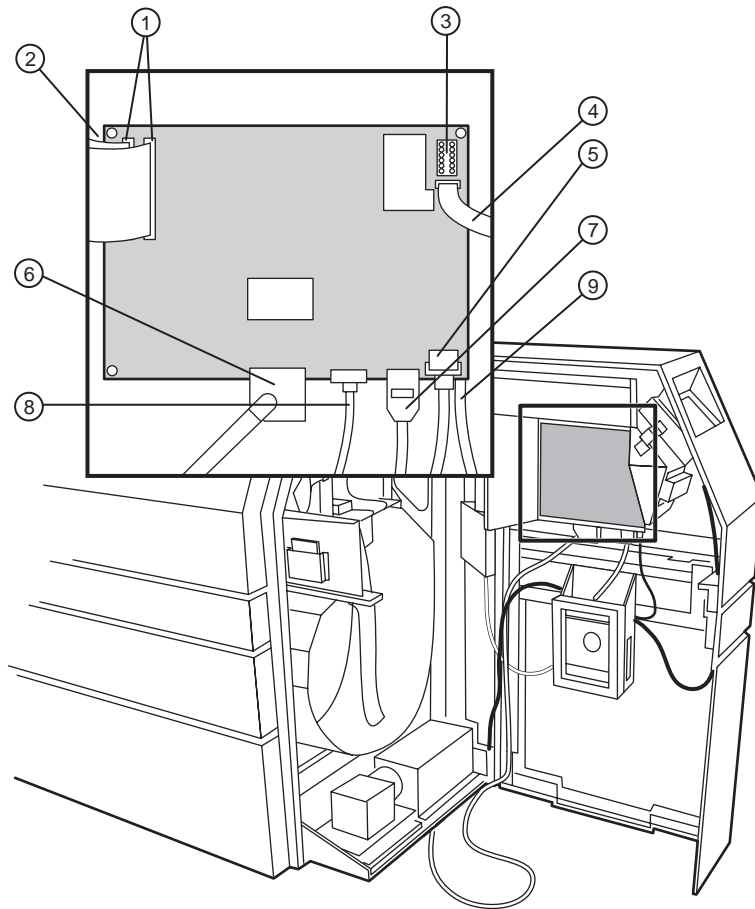

Figure 4-17 Digital Engine Controller PCB (DEC) (cable locations).
4. Disconnect the APIS, serial/modem, modem power cables, and the bridge and vacuum connectors from the DEC's external connectors. Refer to Figure 4-17.
5. Disconnect the internal cables, SDMs/CSDM/OCP, power supply. Refer to Figure 4-17.